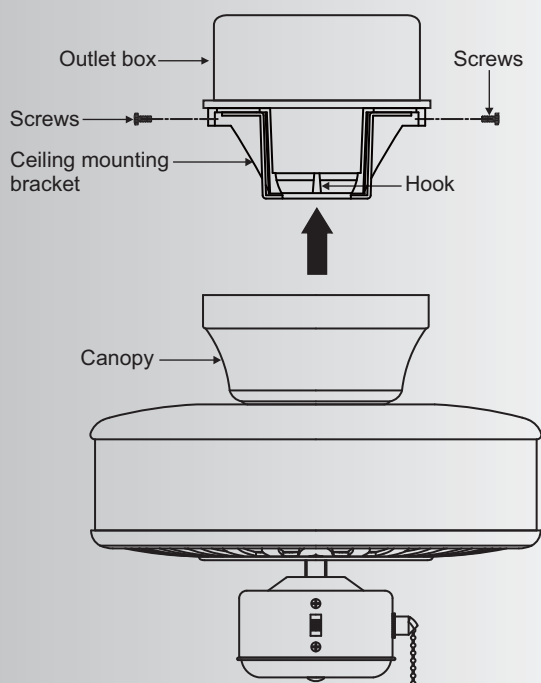

Fig. 14
Step 3. Make sure all four mounting screws are tight. (Fig. 14)